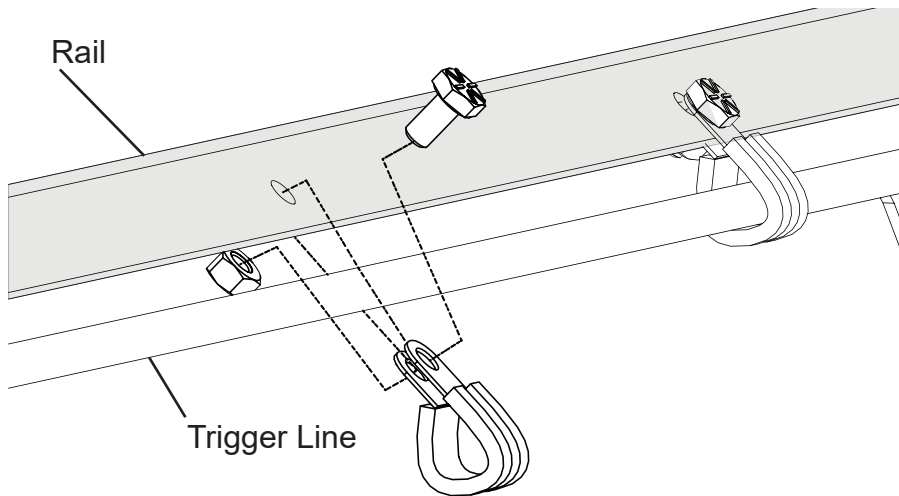
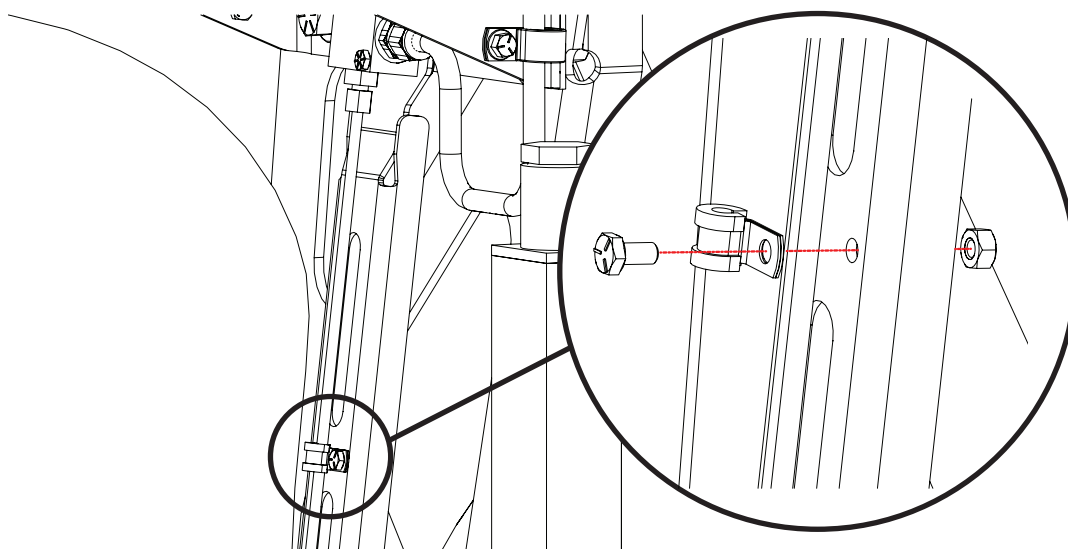

Figure 20: Remove and retain the bolts, clamps, and nuts that secure the trigger line to the rail.
Figure 21: Install the bolts, clamps, and nuts that secure the trigger line to the rail. Quantity is dependent on length of trigger line.
19. Install the bolts, clamps, and nuts that secure the trigger line to the rail (Figure 20 for Frame Mount and Figure 21 for Twin Vertical Mount). Quantity is dependent on length of trigger line.
6. Reinstall the bolt, washers, and nut that bolt the bracket to the tank cover (Figure 20).